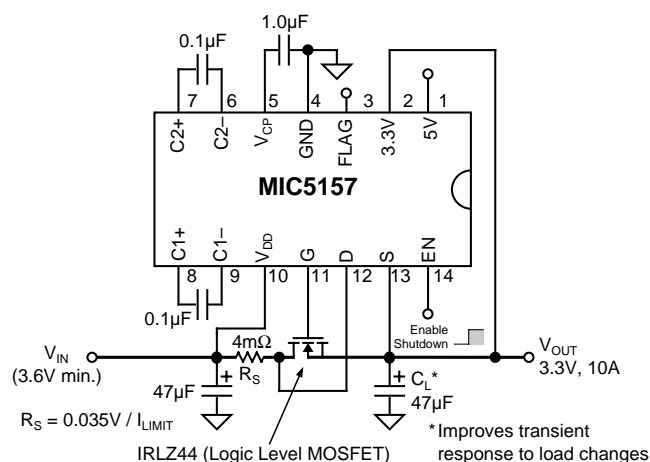

Figure 4-11. Regulator Circuit Diagram
Figure 4-11 is a circuit designed to produce a 3.3V, 10A output from a 5V input. Meeting the design goal of occupying minimal PC board space required minimizing sense resistor area. This resistor is shown as R_S .
The $4\text{m}\Omega$ current-sensing resistor (R_S) of Figure 4-11 is designed as follows: (1) based on copper trace height and an allowed temperature rise for the resistor, calculate the sheet resistance using Equation 4-1; (2) based on the maximum current the resistor will have to sustain, calculate its minimum trace width using Equation 4-2; and (3) based on the desired resistance, calculate the required trace length using Equation 4-3.